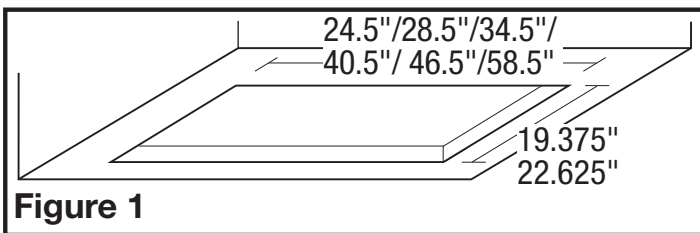

Figure 1
- Cut an appropriately sized hole for the cabinet or canopy the liner will be mounted into (Figure 1):